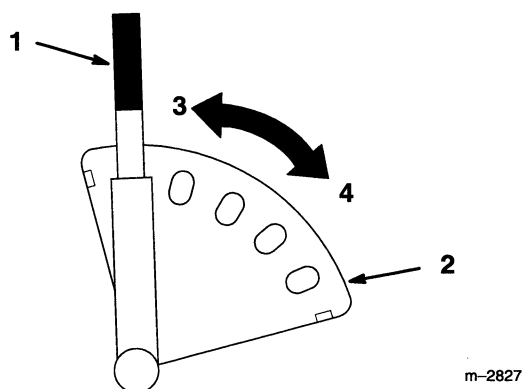

Figure 22
1. Pull height-of-cut lever out to disengage from quadrant. Adjust height-of-cut to the desired level. Release lever inward to lock into quadrant (Fig. 22).